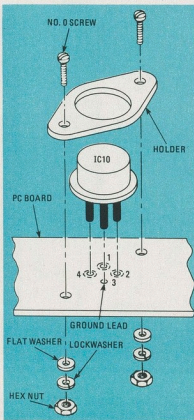

FIG. 20—OSCILLATOR IC, IC10, can be mounted using hardware shown, or secured by soldering case to board.
3) of the IC is not isolated from the case like the others. That is the ground lead and should be inserted into the hole going to ground. Use the hardware package that came with the IC to mount it to the board as shown in Fig. 20, or carefully solder its case to the bottom side of the board in several places. You will be soldering L10 to pin 4 of the IC later, so do not cut it off.